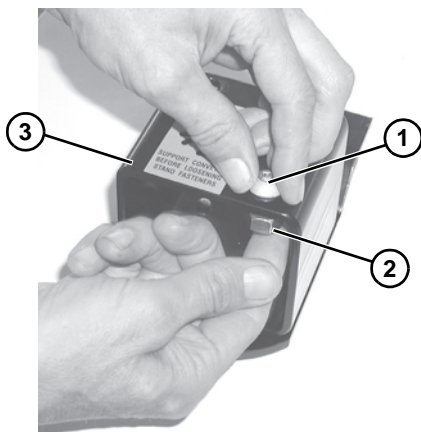

Figure 9
- Install two button head screws (**Figure 9, item 1**) and hex nuts (**Figure 9, item 2**) on leg support (**Figure 9, item 3**). Do not tighten screws.